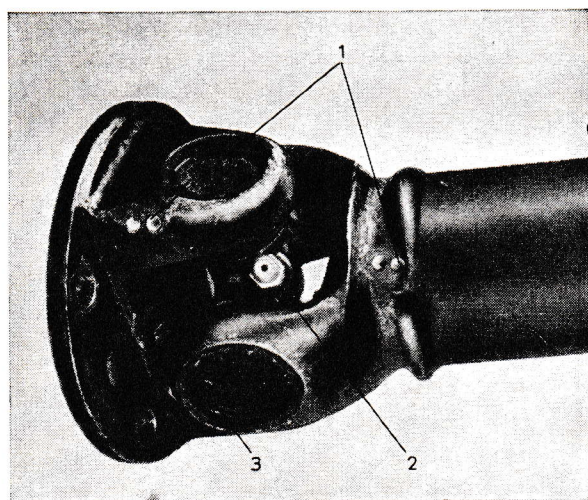

Fig. 8. Punch-marking the universal joint.
Install propeller shaft (or universal joint if the middle one) in vice with the universal joint as close to the vice as possible. Remember that the propeller shaft itself is a tube, which easily can be deformed. Mark the universal joint in such a way that cross yokes can be re-assembled in their original positions (1, fig. 8). Line up marks with lubricator (2) on cross.
1. Remove the four circlips (3) locking needle bearing sleeve.